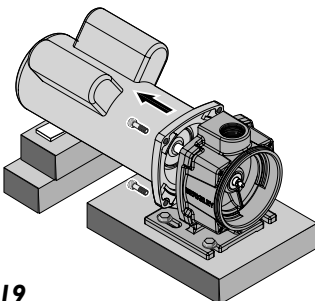

Figure 19
10. Block up the motor (so that the shaft will not take the weight of the motor when you loosen the capscrews holding the motor to the bracket), remove four capscrews (Key No. 2), and slide the motor and shaft back out of the bracket (see Figure 19).